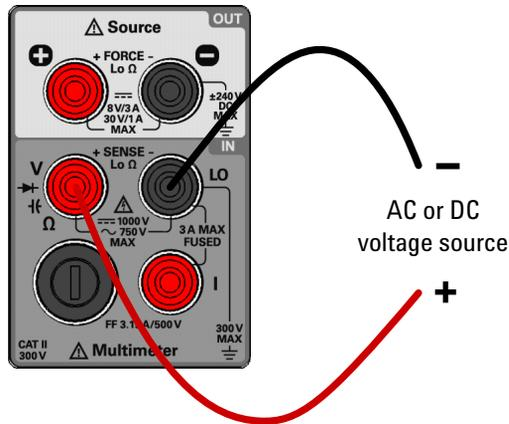

Figure 2-1 Terminal connections for voltage measurements
- 2 Connect the red and black test leads to input terminals **V** (red) and **LO** (black) respectively as shown in **Figure 2-1**.
- 2 Connect the red and black test leads to input terminals **V** (red) and **LO** (black) respectively as shown in Figure 2-1.